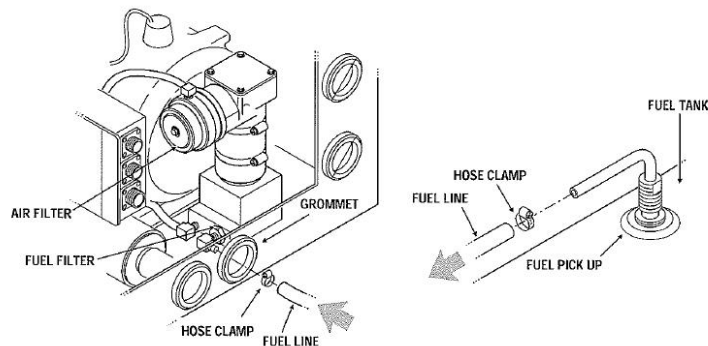

Fig 2.3.19
6. Check Fuel System (refer to Fig 2.3.19)